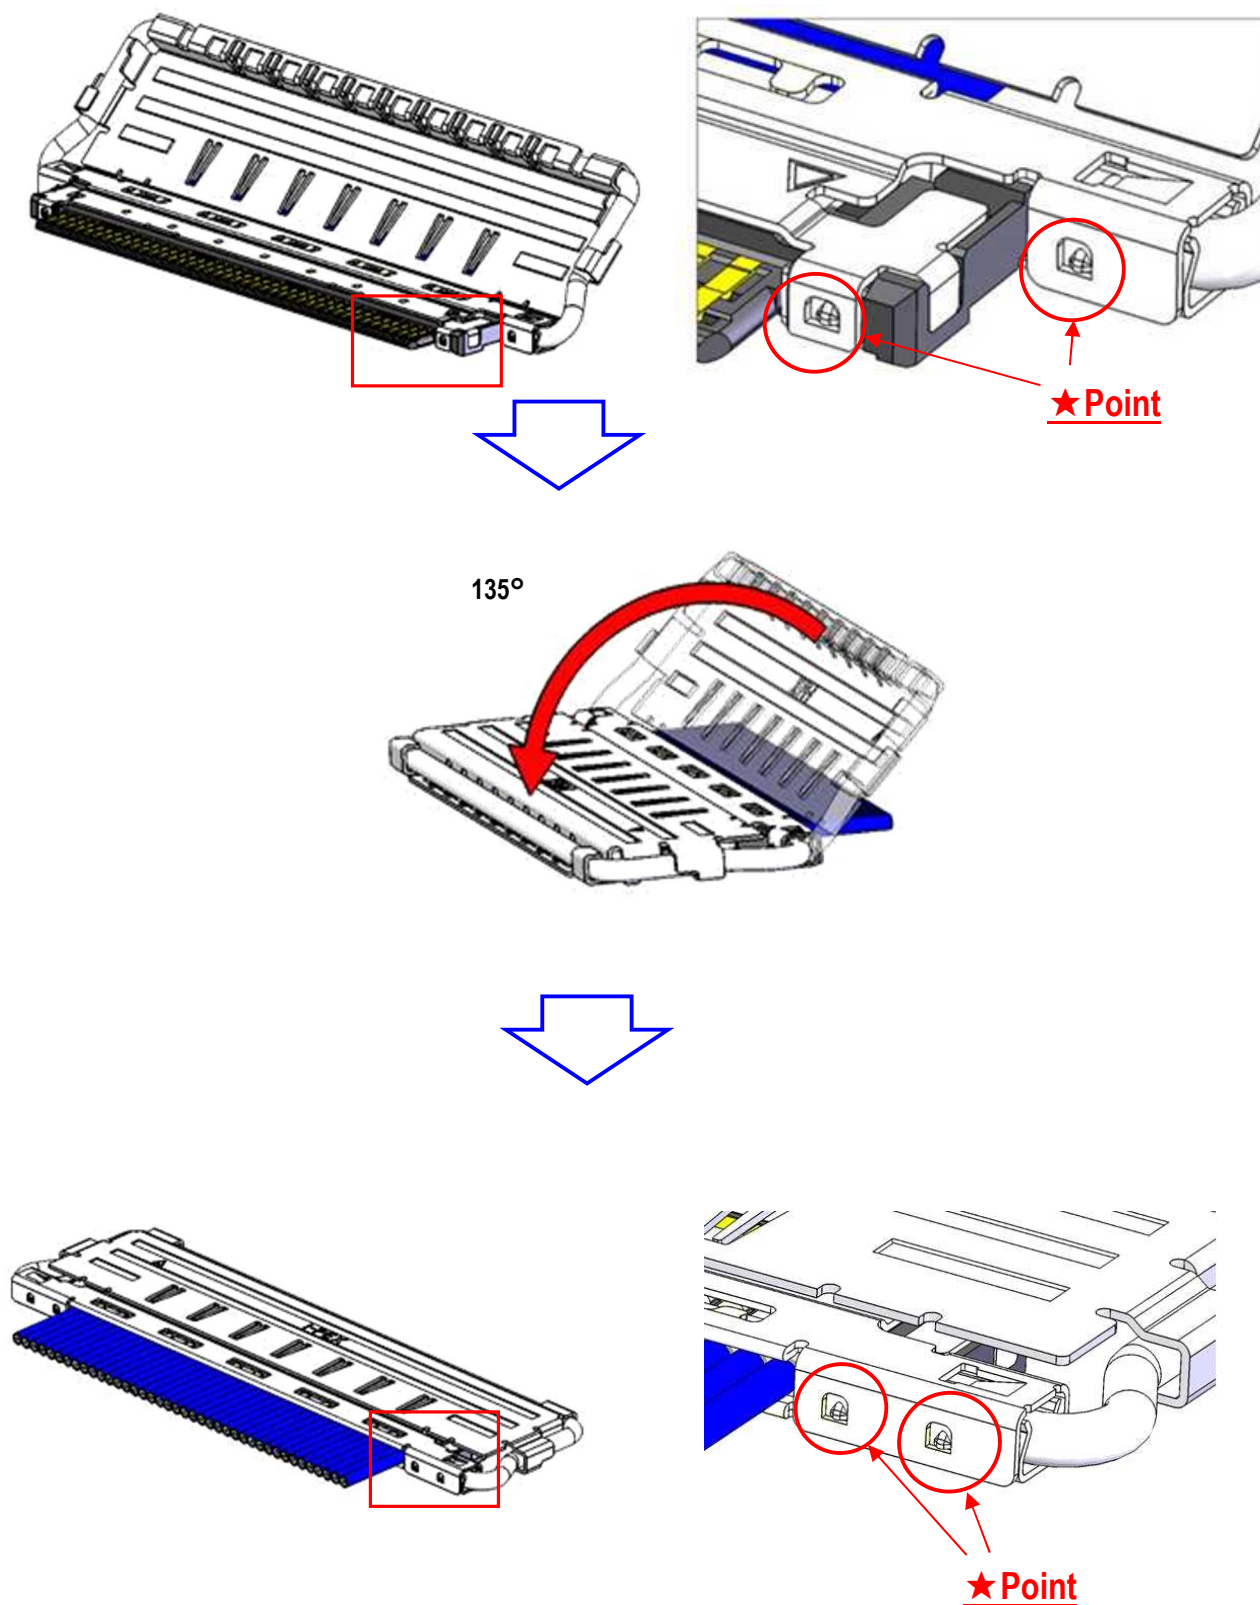

Fig.9 The assembly confirmation of SHELL-A
- ③SHELL A, B and GND BAR are soldered with the soldering iron at all designated points. (Fig.9,10◆point)